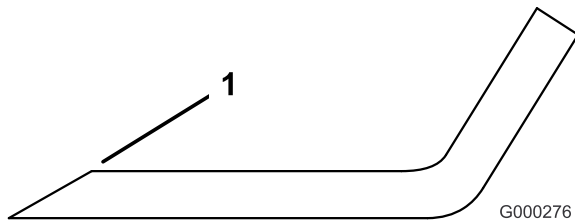

Figure 67
- Sharpen the cutting edge at both ends of the blade (Figure 67). Maintain the original angle. The blade retains its balance if the same amount of material is removed from both cutting edges.